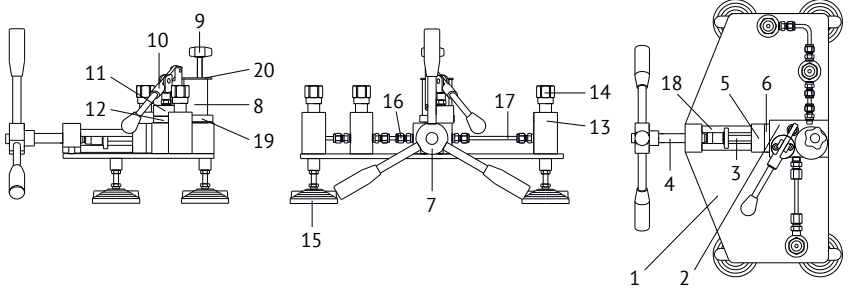
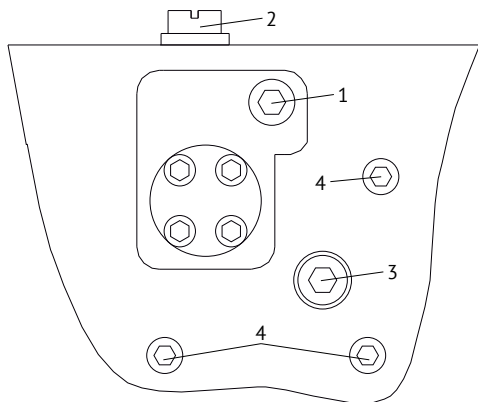

Fig. 1 Comparison calibrating hydraulic device:
Fig. 2 Position of operating screws:
The device exterior is shown in Fig. 1.
4.1 Basement of the device represents steel plate 1 (Fig. 1), with four adjustable supports 15. Basement with pressure generator 2 is designed as a steel rectangular block with internal cavities for main stem, manual pump and all necessary bores and valves. On top of the basement with pressure generator the following equipment is mounted: manual pump 10, bowl base 19, bowl for working fluid 8 and pressure release valve 9. Main stem assembly is installed on the front side of the basement. Stands 13 with nuts 14 are located on both sides of the basement with pressure generator; they are used for connecting the reference standard (right stand) and one or two units under test (left stands). In case of one unit under test a plug is installed into the free stand. The basement with pressure generator and stands are connected to each other by fittings and high pressure tubes. A separate screw 21 (Fig. 21) and 1 (Fig. 1), with a special seal located at the bottom of the basement with pressure generator is provided for draining working fluid from the device. Screw 2 (Fig. 2) is used for draining working fluid from the manual pump cavity.
4.2 Using manual pump 10 (Fig. 1) working medium is pumped from the bowl 8 to the cavities of the main stem and the stands 13 with measuring
8.3.1 Place a proper container under the device and unscrew completely the screw 1 (Fig. 2).